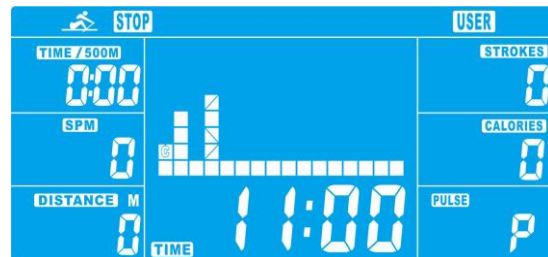

Fig. 16
- c. Press UP and DOWN to pre-set TIME (Fig. 16) and press ENTER to confirm.